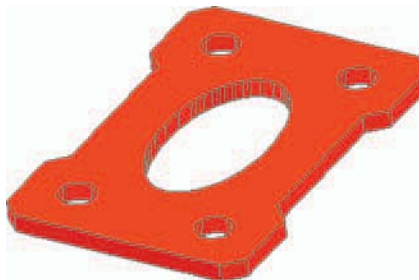

Fig. 17.21 First example – 2D outlines in 3D space
First example – 2D outlines in 3D space (Fig. 17.21)
7. Place in the **Home/View/Realistic** visual style. Extrude the region to a height of **10** (Fig. 17.21).